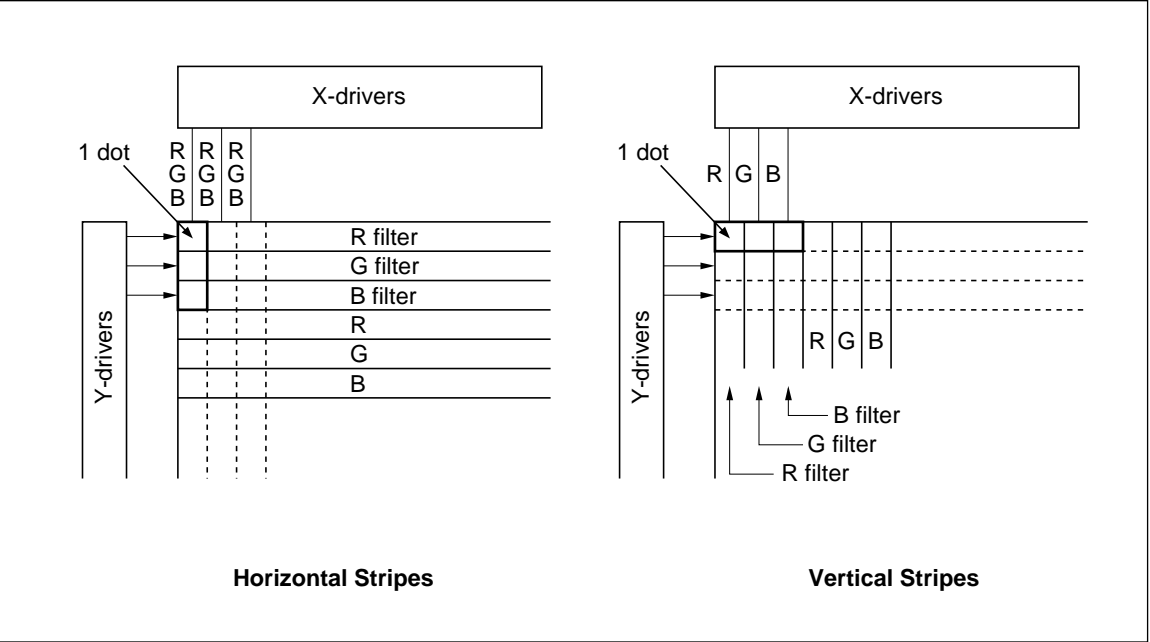

Figure 7 Stripe Modes in 8-Color Display
8-Color Display (Mode 9 to 16): The HD66840/HD66841 displays 8 colors through red (R), green (G), and blue (B) filters placed on liquid-crystal cells. The eight colors are the same as those provided by a CRT display. As shown in figure 7, 8-color display has two stripe modes: horizontal